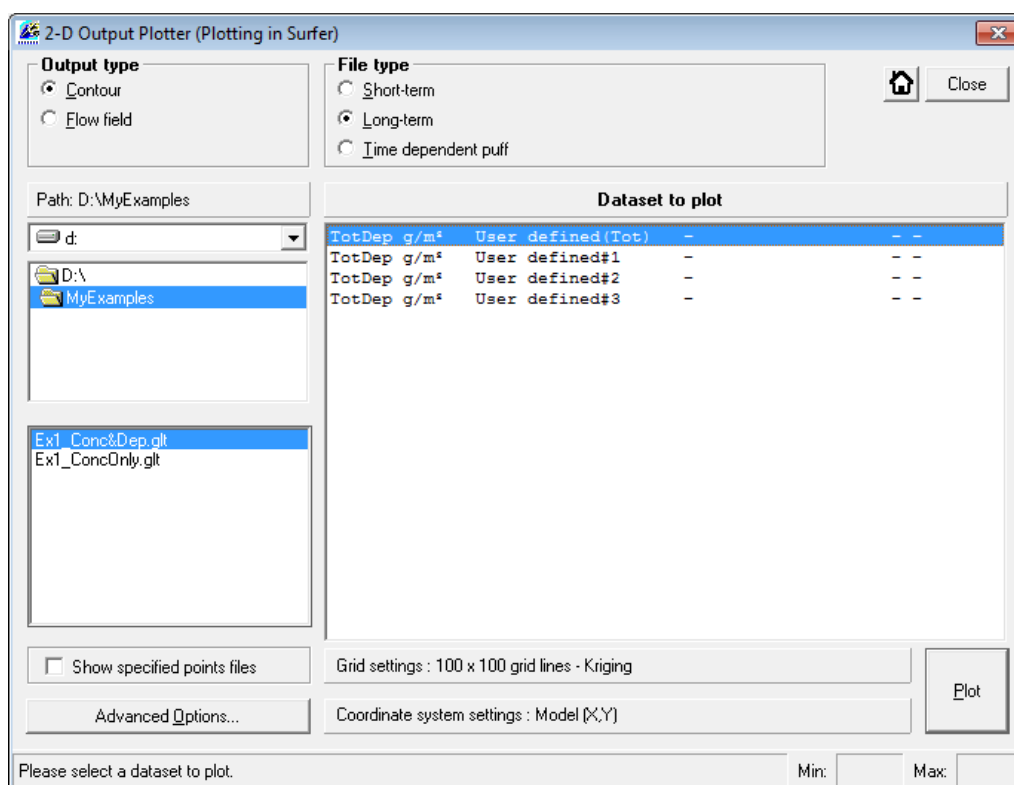

Figure 7.10 - Example 1: the **ADMS Contour Plotter** utility.
- Step 1** Go to **Results, Contour Plot in Surfer...** to launch the **ADMS Contour Plotter** utility. Select the **Long term** radio button to produce a screen like that shown in **Figure 7.10**.